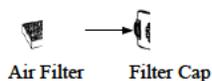

Fig. 12-1
(1) Attach the air filter to the filter cap, as shown in Fig.12-1.